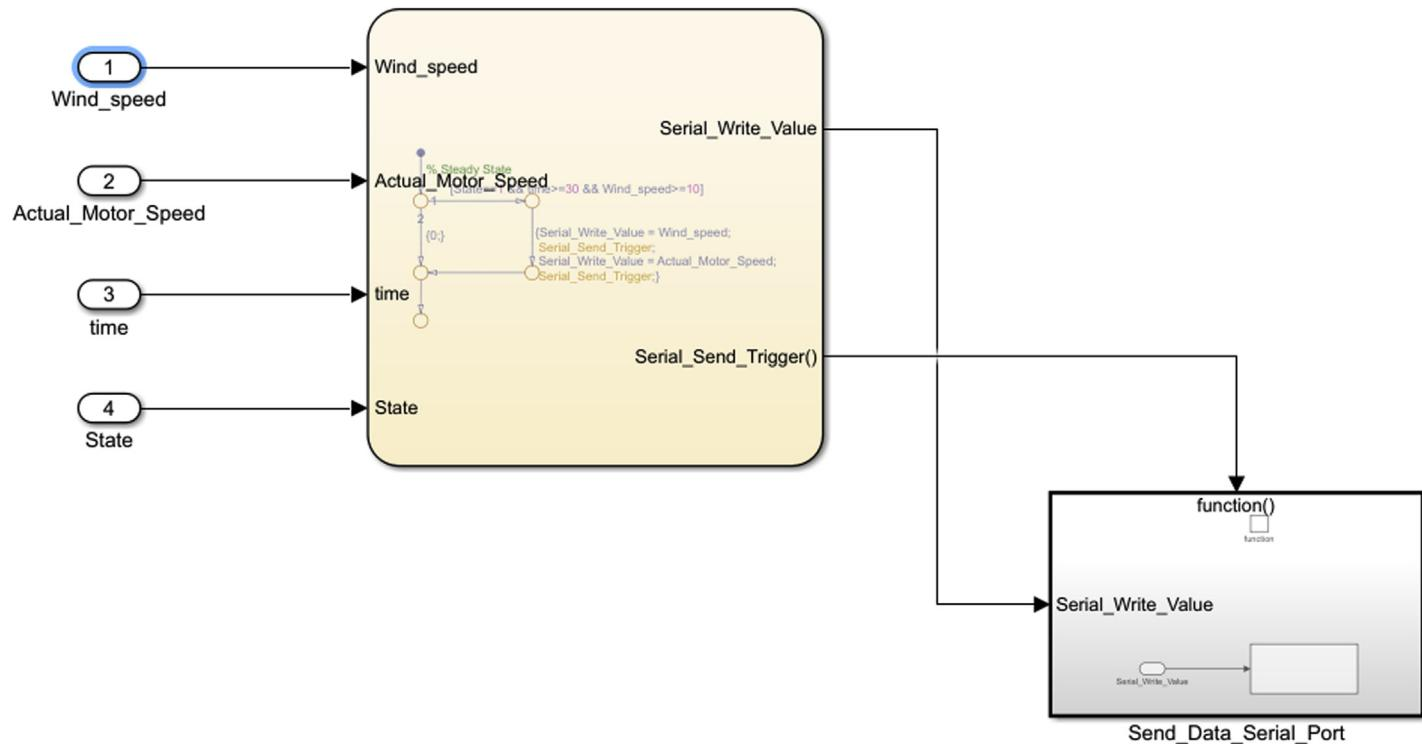

Figure 10.44 First, third, and fourth input for stateflow.
22. Go outside the stateflow chart and add two imports. Rename the first import as Wind_speed, third import as time, and the fourth one as State as shown in Fig. 10.44.